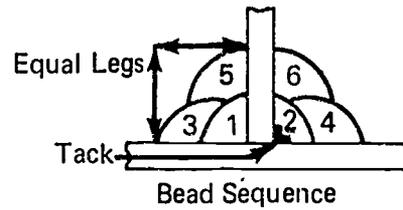

FIGURE 4
- I. Run three beads on each side overlapping (Figure 4)